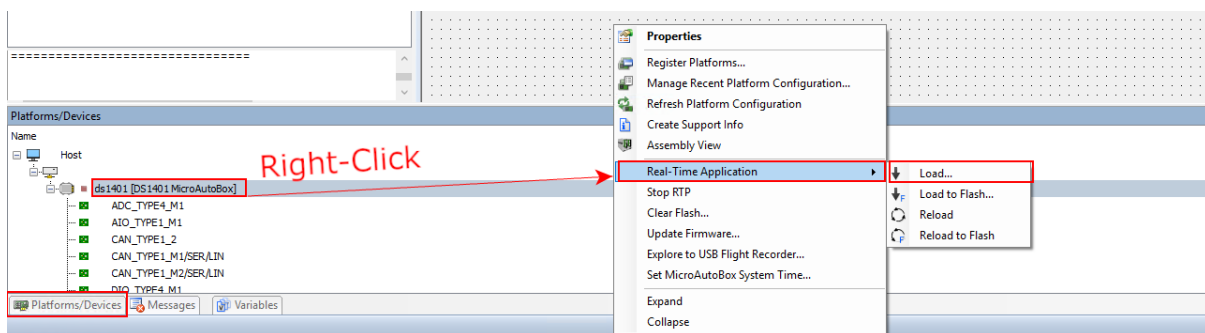
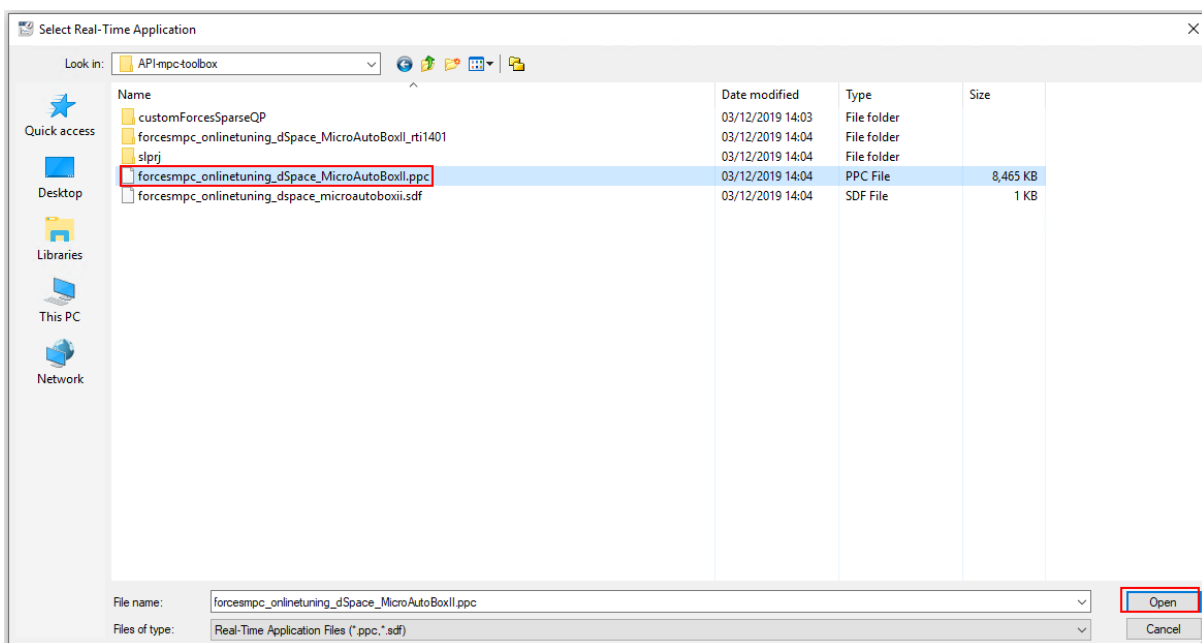

Figure 6.19: Load the application on the dSPACE MicroAutoBox II
Figure 6.20: Select the executable to run the experiment
- 15) Select the **Platforms/Devices** tab. Right-Click on your platform and select **Real-Time Application> Load**. Choose the executable file `forcesmpc_onlinetuning_dSpace_MicroAutoBoxII.ppc` (see Figure 6.19 and Figure 6.20).